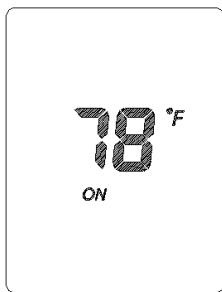
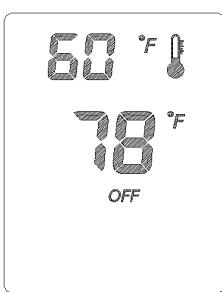
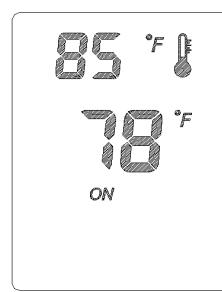
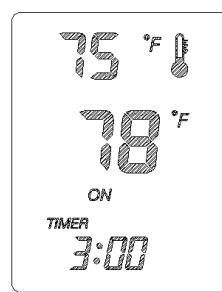

Figure 28
Figure 29
Figure 30
Figure31
With burner in operation(See Figure 28), press TEMP button, the temperature setting and mark will appear on remote control(See Figure 29). Then burner into temperature control mode, press UP and DOWN button to change the desired temperature. Burner will automatically shut off when the room temperature is higher than set temperature 5°F (See Figure 30) and burner will automatically turn on when the room temperature is lower than the set temperature 5°F (See Figure 31), we can setting the temperature when the remote control in a auto off mode, operation is same as above.
2. Inspect burner, pilot and primary air inlet holes on injector holder for dust and dirt (see Figure 30).